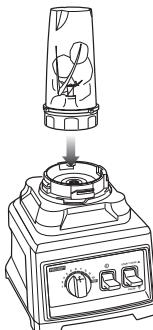
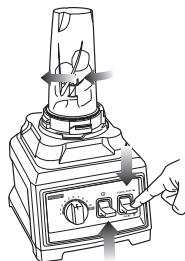

Fig. 10
Fig. 11
- 5 Turn the Nutri Ninja cup upside down and place it onto the motor base, aligning the tabs on the cup with the motor base. (**Fig. 10**) Turn clockwise until the cup locks in place, the unit is ready for use. (**Fig. 11**)
Press down on the "Start/Stop/Pulse" toggle in short intervals until you have reached your desired consistency. (**Fig. 11**)